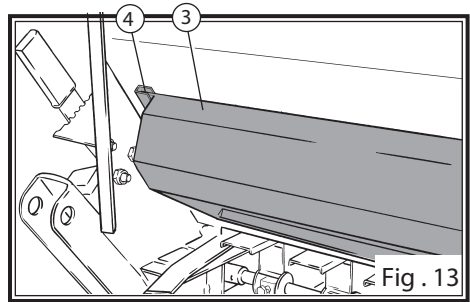

Fig. 13
**SECOND:** Pull the calibration cup (3, fig. 13) upwards out of the holders (4, fig. 13) and place it under the seed wheels.